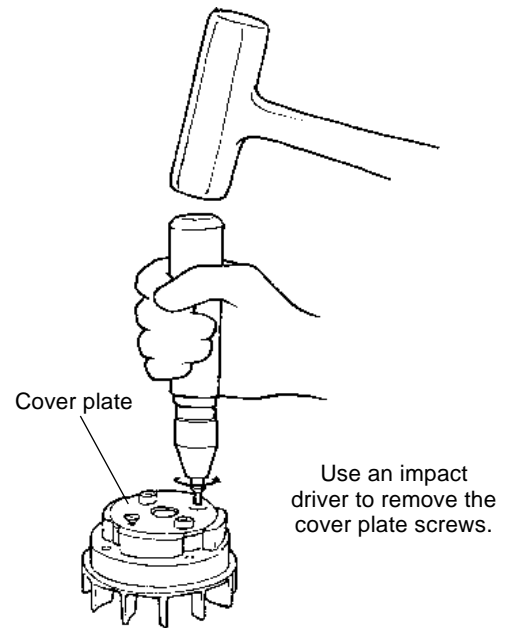

Figure 6.6 Removing the Cover plate.
- STEP 2.** Remove the two countersunk screws securing the cover plate using an impact driver fitted with a No. 2 phillips tip (Figure 6.6). Remove the cover plate.